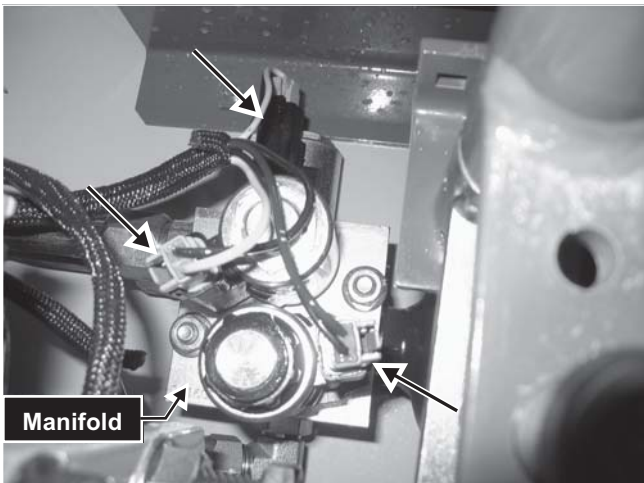

Fig. 8-99 Location of three electrical connectors on the accumulator manifold valve.
2. Disconnect three electrical connectors on the manifold from the wire harness. **Fig. 8-99**